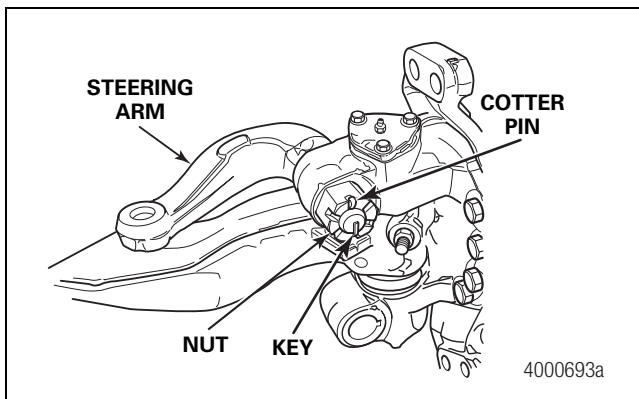

Figure 6.34
1. Press the key into the slot in the arm. Install the steering arm into the knuckle. Figure 6.34.